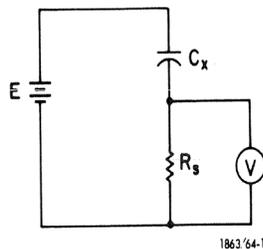

Figure 4-2 Basic megohmmeter circuit
Measuring insulation resistance of large capacitors that have very low leakage is difficult by any method. Considering the basic circuit of Figure 4.2, if R_s is high, the $R_s C_x$ time constant can become very long on the high resistance ranges if C_x is large. If R_s is low, the voltmeter must be very sensitive for a given leakage resistance range and, therefore, the supply voltage (E) must be extremely stable to avoid large meter fluctuations. The design of the 1863 and 1864 is a compromise between these factors. Measurements become difficult when the $R_s C_x$ product is 10^6 , even under ideal conditions. This can be calculated as (C_x in μF) \times (R_s in $\text{M}\Omega$) or (C_x in F) \times (R_s in Ω). Table 4.1 contains values for R_s .